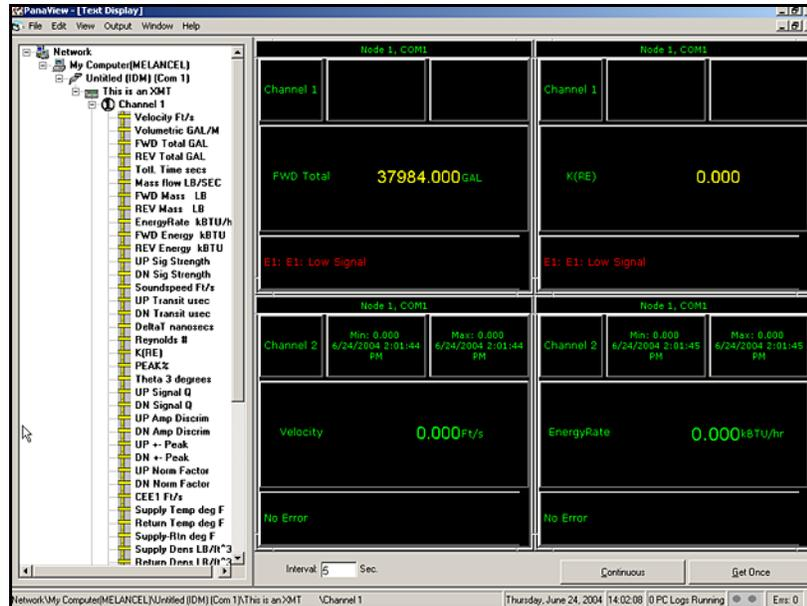

Figure 20: Multiple Text Screens in the *Text Display* Window
2. Repeat Step 1 for any desired additional process parameters, by double clicking on them in the PanaView network tree. PanaView automatically tiles the multiple text screens in the right pane of the *Text Display* window (see *Figure 20* below).